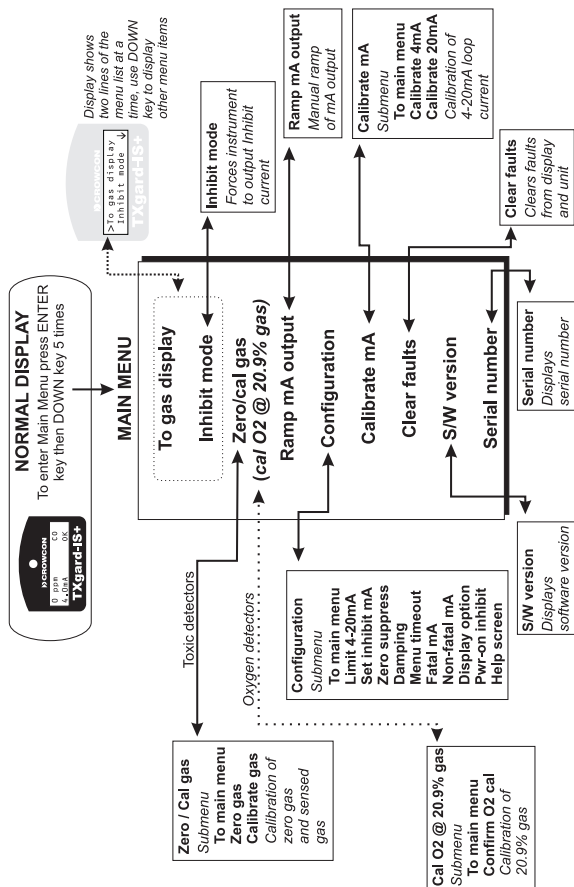

Figure 10: Menu structure for TXgard-IS+ toxic detector.
shown in Figure 10 on page 13, detailed menus can be found in Appendix D.
**NOTE:** To prevent false alarms during calibration, enable inhibit mode prior to zeroing or applying gas (see Figure 10 on page 13). The detector output will then remain at the preset inhibit level (see Appendix D) for **five minutes** or until inhibit mode is cleared manually. "Inhibit" will appear on the normal operating display when inhibit is active, and the detector will automatically resume gas level output after five minutes.
- 3 You should now be in the main menu. Refer to menu structure, (Figure 10 on page 13)